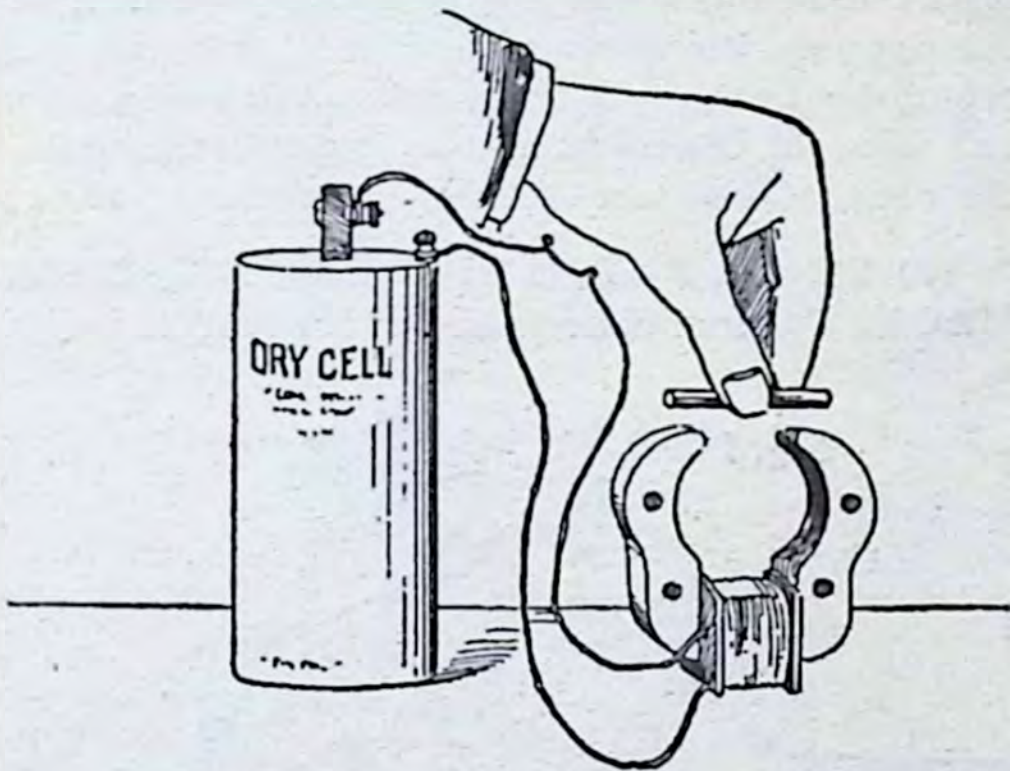

Fig. 5
**(5) HOW TO TEST THE FIELD MAGNET:** Connect the ends of a field magnet to the binding posts of a dry cell and then test it out with a soft iron wire, or nail, and you will find that it behaves just like a Horse-shoe Magnet, except that it is much stronger. Fig. 5 shows how the connections are made.